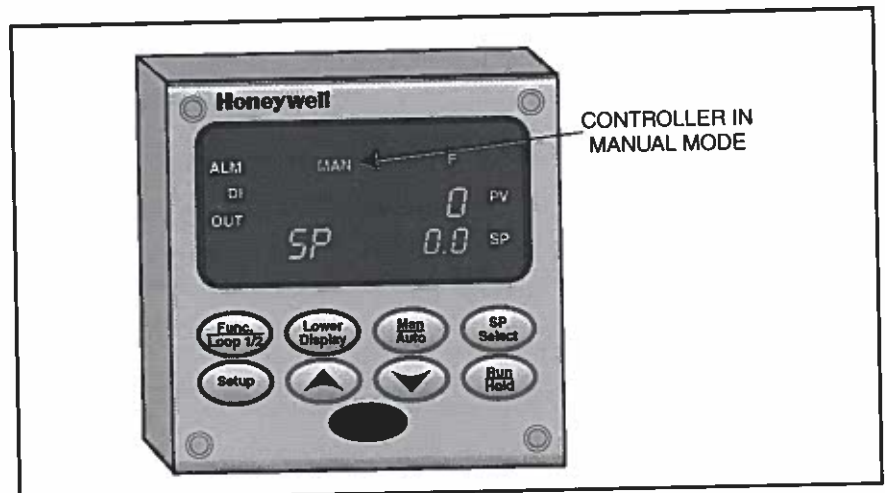

Figure 27. Controller in Manual Mode
- ☐ 3. If necessary, press the **Man/Auto** key until MAN appears in the upper left portion of the display, indicating that the controller is in manual mode, as shown in figure 27.